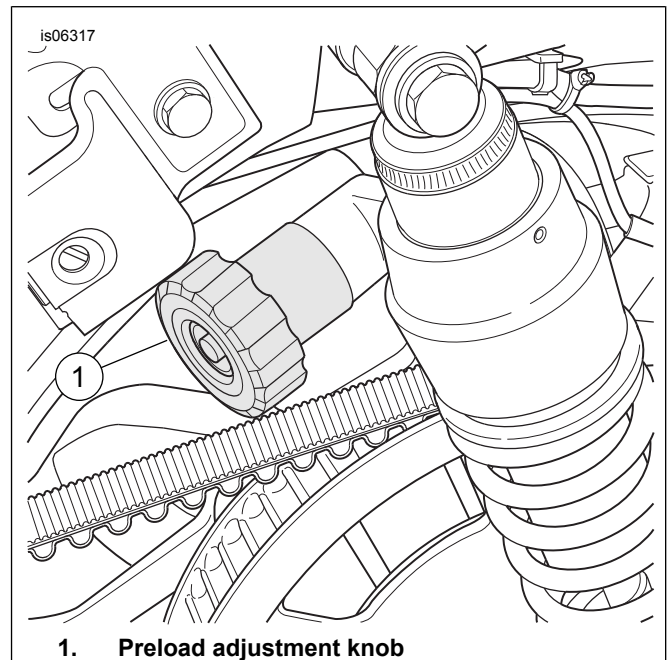

Figure 2. Preload Adjustment Knob
4. See Figure 3. Install the shock absorber (1) on the left side of the vehicle with the preload adjustment knob toward the front of the motorcycle, as shown in Figure 2, and start the bolt into the swingarm mount.
2. See Figure 2. Rotate the preload adjustment knob counterclockwise until it stops. This is the minimum preload position.